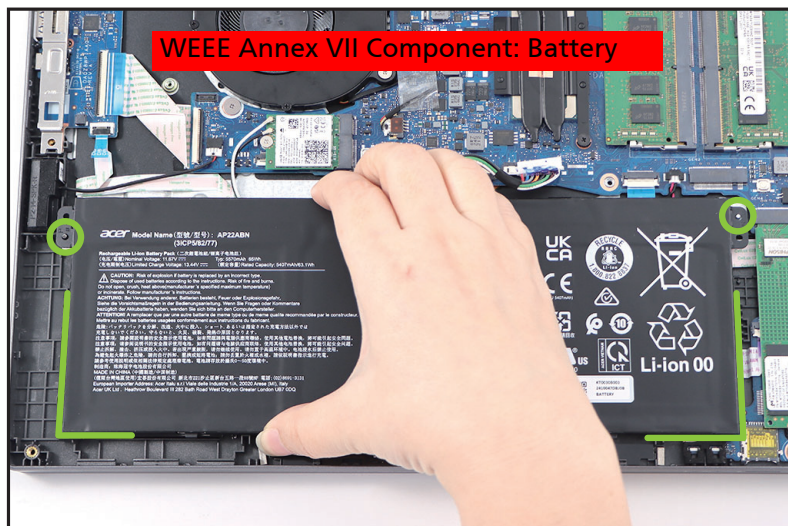

Figure 1-8. Battery Pack Removal
4. Release the battery pack from the guides (marked with green circles) and battery compartment edges (marked with green lines) on the top assembly and remove it (Figure 1-8).